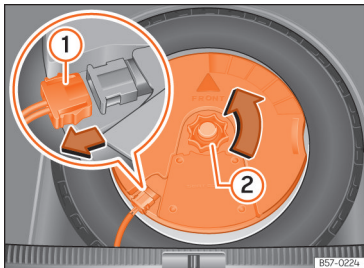

Fig. 197 In the luggage compartment: remove the subwoofer.
- Disconnect the *subwoofer* »» Fig. 197 ① speaker cable.
- Turn the securing wheel in an anti-clockwise direction »» Fig. 197 ②.